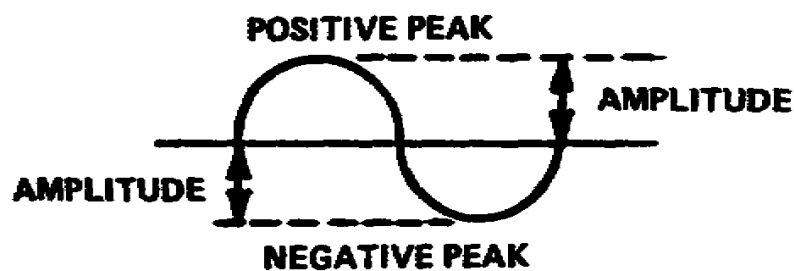

Figure 1-10. Amplitude of a wave
(1) First, measure from the center reference line to either the positive peak or negative peak (fig 1-10). Measuring a wave this way is called the amplitude of a wave.